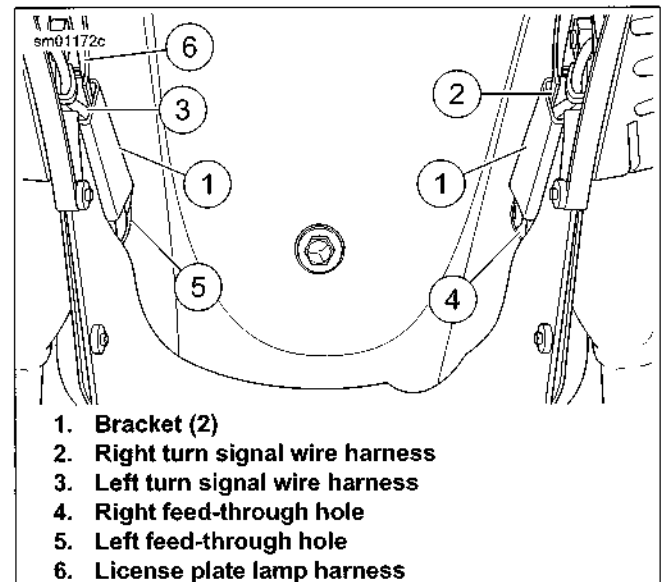
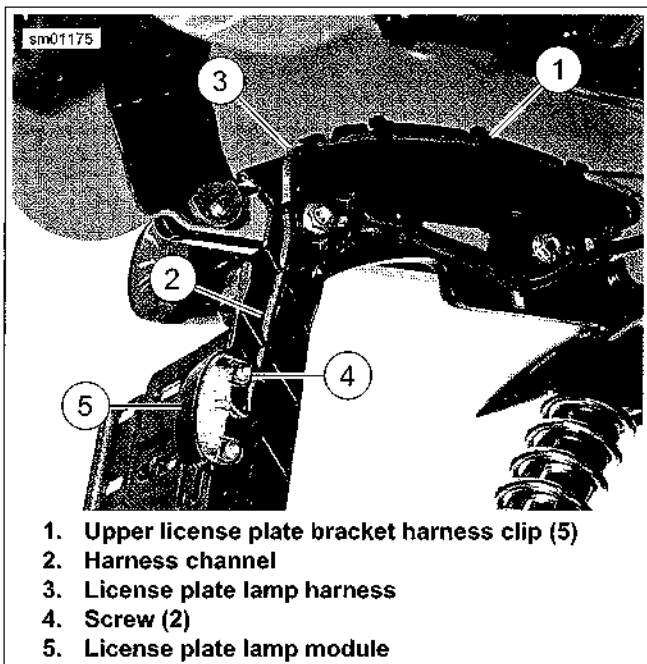

Figure 6-49. Wire Harness Routing and Harness Brackets:
Figure 6-50. Removing/Installing License Plate Lamp Module: XL 883N, XL 1200X/V
7. See Figure 6-49. Carefully pull license plate lamp harness (6) through feed-through hole (5) on left side of fender.
8. Remove license plate lamp harness from fender harness clip (1) on left side of fender.
9. See Figure 6-50. Remove license plate lamp harness (3) from upper license plate bracket harness clips (1) and harness channel (2).
10. Remove two screws (4) and license plate lamp module (5) from license plate bracket.
- See Figure 6-50. Install new license plate lamp module (5) into convertible side mount license plate bracket. Secure with two screws (4).
- Feed license plate lamp harness (3) up through harness channel (2). Insert harness into upper license plate bracket harness clips (1).
- See Figure 6-49. Insert license plate lamp harness (6) into fender harness clip (1) on left side of fender.
- Feed harness through feed-through hole (5) on left side of rear fender.